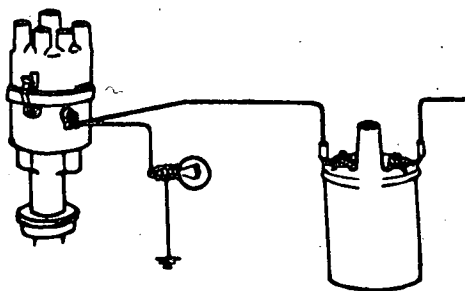

Fig. 1
b) Connect a test light between the distributor terminal and earth, and turn over the engine (fig. 1).